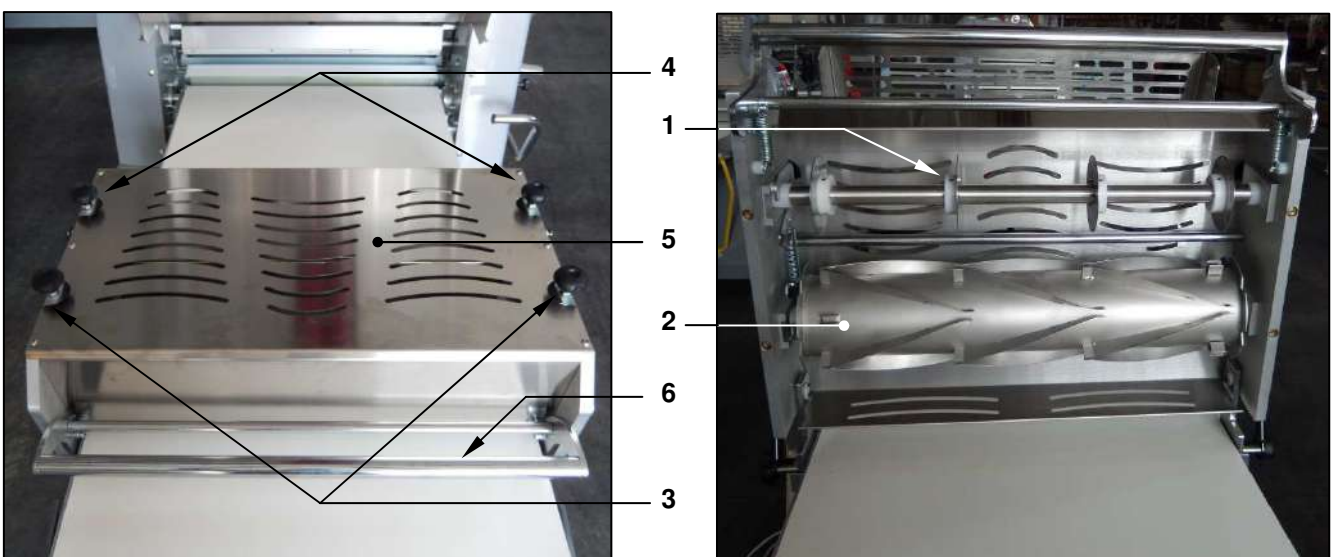

Figure 3 - Cutting unit
This device is shown in Figure 3. This unit is used to make pieces of dough from the sheet produced by rolling, that are to be subsequently processed to make specific products. The most common of these are triangular pieces that are used to make croissants.
- ref. 1 cutting discs mounted on a single shaft in the direction in which the sheet moves
- ref. 2 cutting roller (Figure 3 shows a roller for cutting triangular shaped pieces of dough)
- ref. 3 manual device for regulating the cutting force of the discs ref. 1 against the bench.
- ref. 4 manual device for regulating the cutting force of the roller ref. 2 against the bench.
- ref. 5 disc ref. 1 and roller ref. 2 guard. This acts as a support structure for the discs ref. 1 and rollers ref. 2
- ref. 6 release lever to release the cutting unit from the bench so that it can be raised.